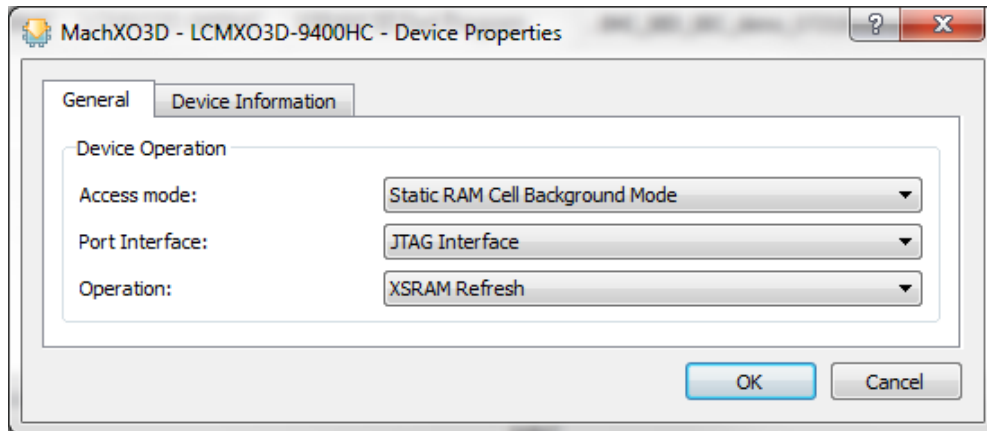

Figure 6.13. Use XSRAM Refresh
2. In the **Device Properties** dialog box, select **Static RAM Cell Background Mode** from **Access mode**, **XSRAM Refresh** in **Operation**, as shown in Figure 6.13.